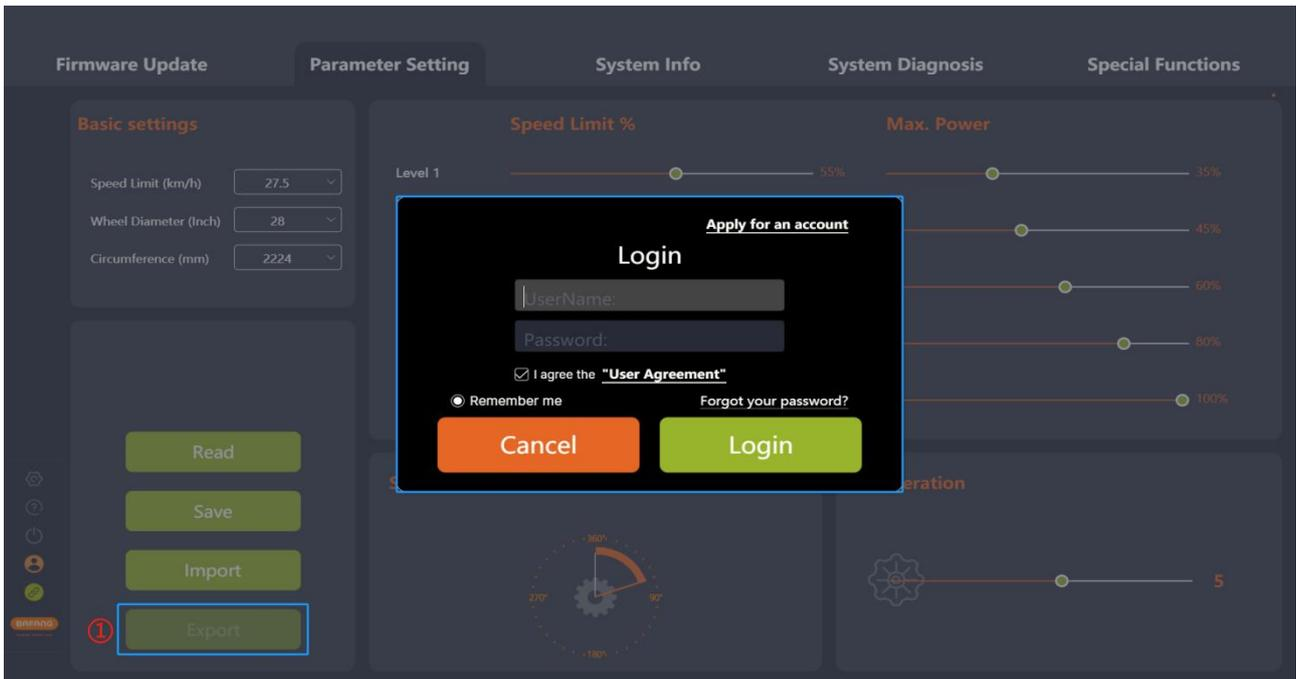

Fig. 5-9 Export
- (1) Click "Export". If you are not logged in, the "Login" interface will pop up, prompting you to log in (Fig.5-9).